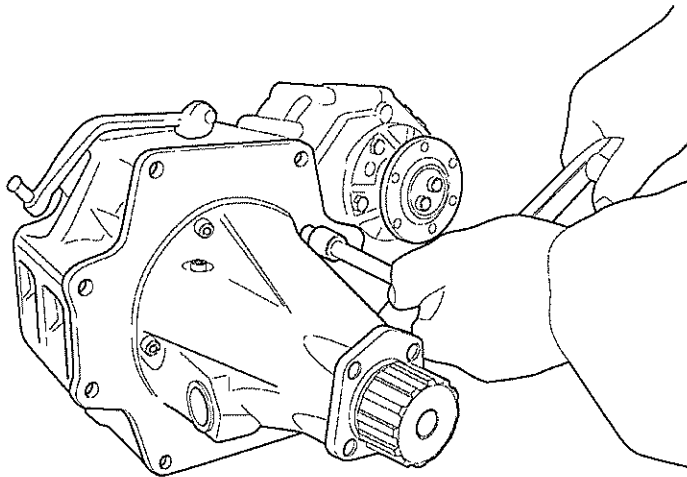

Fig 2 Removing all wheel drive actuator housing
- 4.9 Remove all wheel drive housing and discard O-ring (see Fig 2).